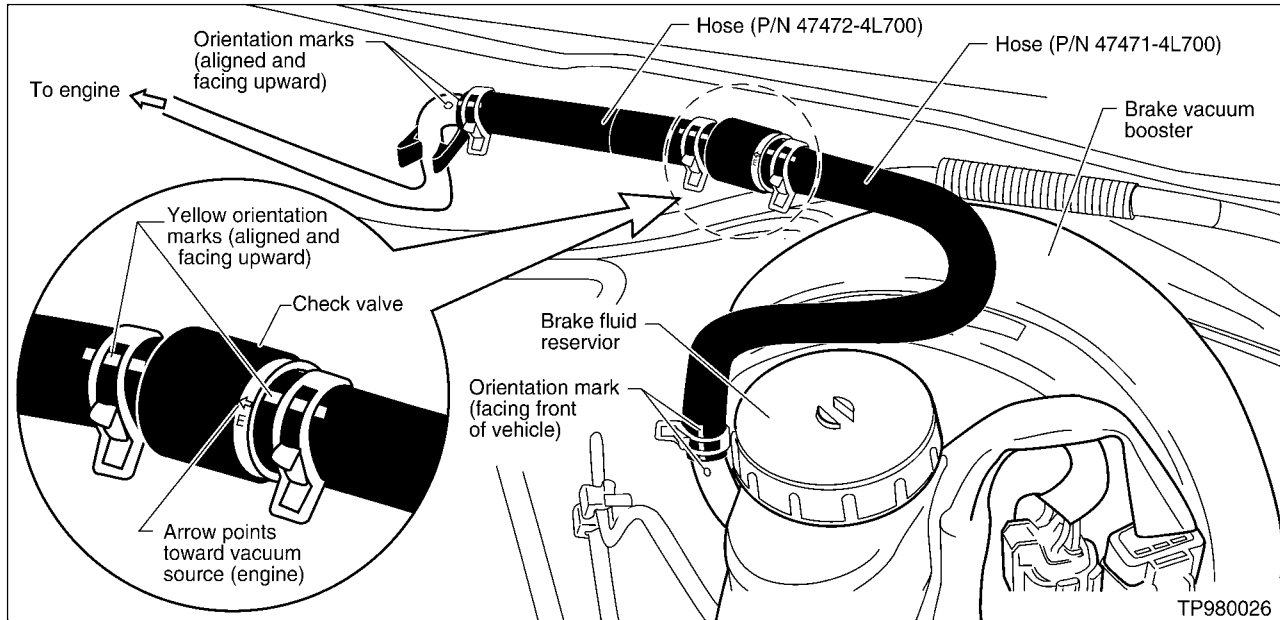

Figure 1
- A. If the rattle noise stops, replace the power brake check valve hoses (see Figure 1).